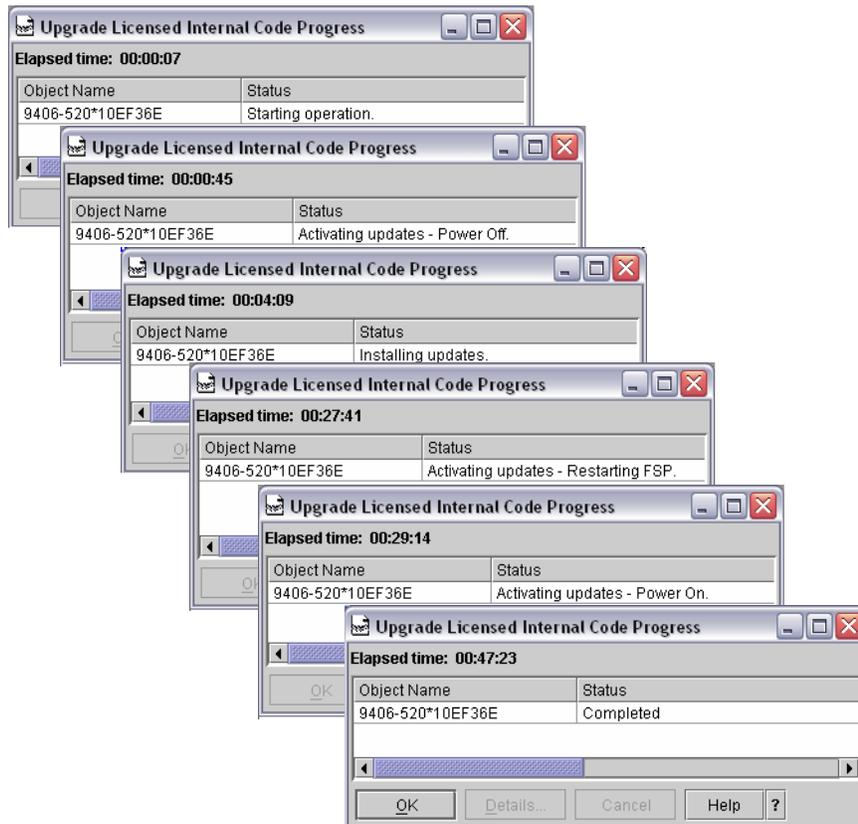

Figure 14-45 Upgrade LIC - progress windows
9. The upgrade of the firmware starts, the status windows for the licensed internal code upgrade are shown below (Figure 14-45).